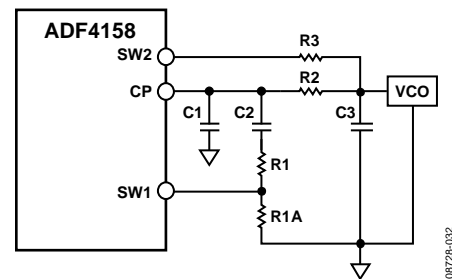

Figure 46. Fast-Lock Loop Filter Topology—Topology 1
To further enhance stability and mitigate frequency overshoot during a frequency change in wide bandwidth mode, Resistor R3 is connected (see Figure 46). During fast lock, the SW1 pin is shorted to ground, and the SW2 pin is connected to CP (set Bits DB[20:19] in Register R4 to 01 for fast lock divider).
- Divide the damping resistor (R1) into two values (R1 and R1A) that have a ratio of 1:3 (see Figure 46).